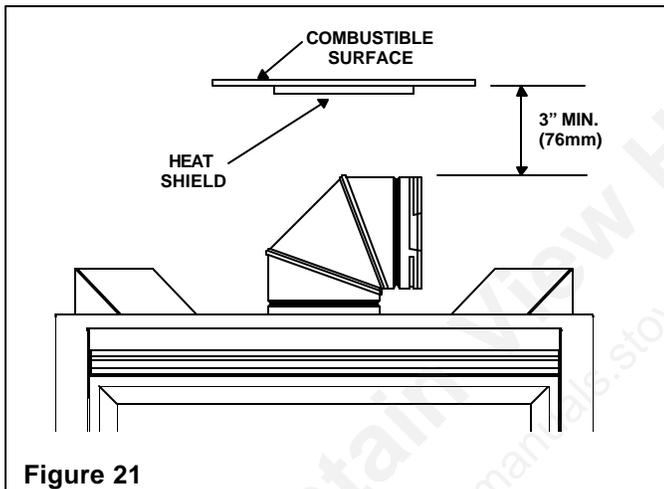

Figure 21
1. Determine if the heat shield is required. Do so by measuring the vertical distance between the top horizontal surface of the elbow to any combustible surface above. If the distance is more than 4 inches, the heat shield is **NOT** required. If it is 4 inches or less, the heat shield is **REQUIRED**. Install per the following steps. See Figure 21.